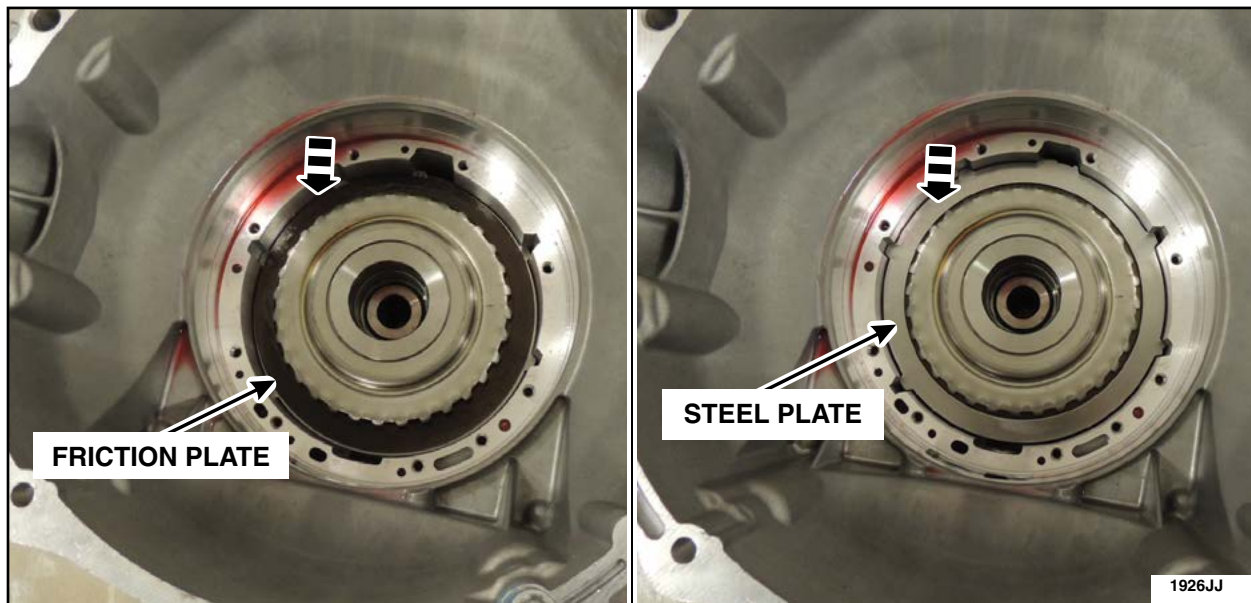

FIGURE 35a
32. Install the overdrive clutch plates. Start with the friction plate, alternating with a steel plate. See Figure 35a and 35b.